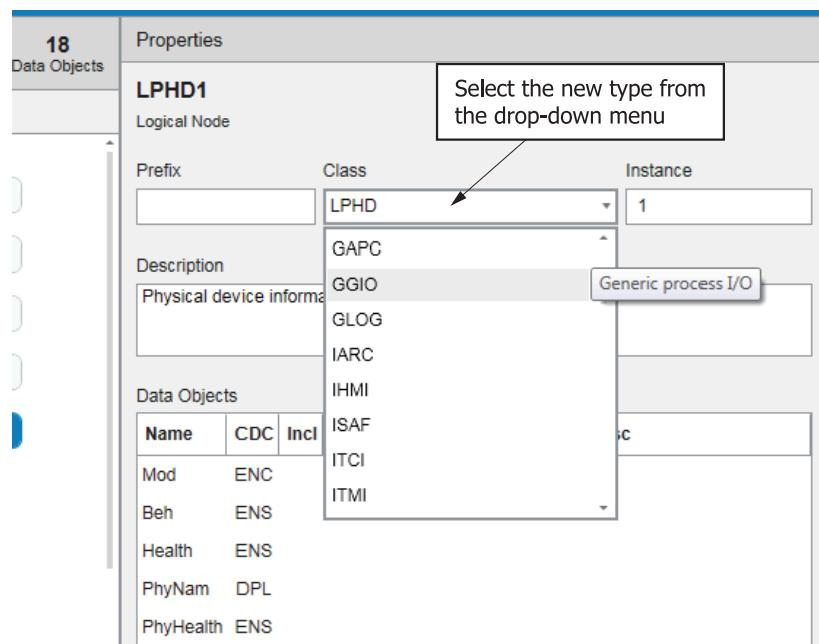

Figure 2.52 Changing the Logical Node Type
Step 7. Click the **Class** drop-down box to change the class of this logical node. For example, change it to a GGIO type. See *Figure 2.52*.